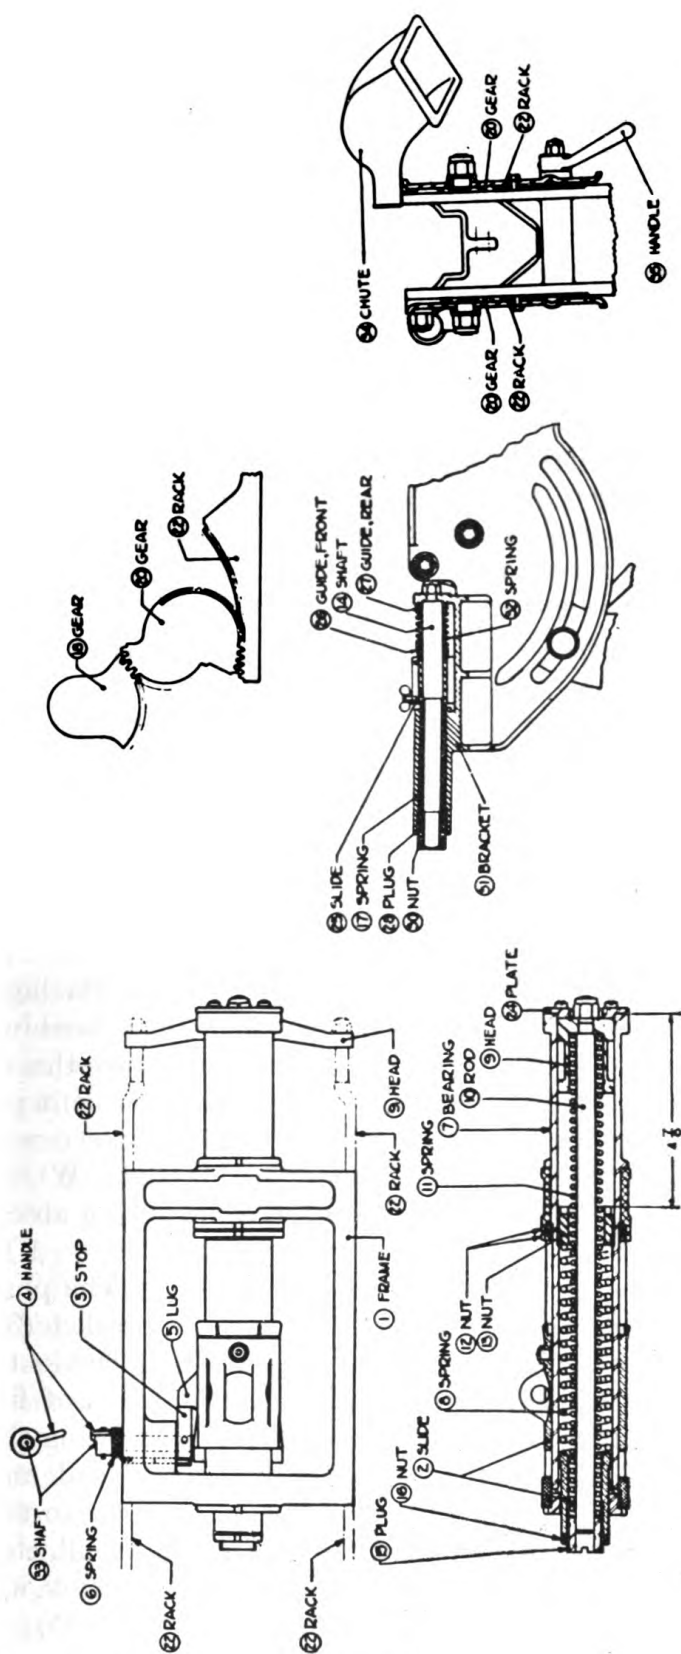

FIGURE 7.—Antiaircraft machine-gun mount, caliber .50, M2, recoil mechanism.
(3) *Recoil mechanism* (fig. 7).—(a) The recoil mechanism is housed in frame (1) which is located between and secured to the cradle side plates. The rear gun joint pin passes through the gun bracket and slide (2) of the mechanism.
(4) *Operation of recoil mechanism* (fig. 7).—As the machine gun recoils, slide (2) moves with the gun to the rear, compressing springs (8), (11), and (32). The built-up spring pressure brings the gun to rest at the end of recoil and returns it to battery during counter-recoil. The counterrecoil of the gun is retarded by the counterrecoil springs (17). The firing mechanism is so arranged that the gun cannot be fired until it reaches a predetermined point in the path of counterrecoil, which is determined by the location of the lug which contacts the side plate trigger. Whether the gun is fired when it reaches this point or later depends on the relation of the moving parts of the gun mechanism, that is, the sear slide must be in position to be disengaged by the side plate trigger. The counterrecoil force of the gun is finally checked by the impulse of this shot. When firing a single shot and on the last shot, the counterrecoil spring absorbs the final energy of counterrecoil.
(5) *Adjustment of recoil mechanism* (fig. 7).—(a) The plug (28) should be $6\frac{1}{8}$ inches from the forward rear face of bracket (31) and lock nut (30) locked against it. Screwing in the plug checks the gun earlier in counterrecoil and will disturb the smoothness of firing if screwed in more than a few turns (clockwise). Unscrewing the plug (counterclockwise) reduces the counterrecoil spring load and aids smoothness of action. However, caution is necessary due to unavoidable variation in energy of cartridge, friction in links, pull, etc. The gun must not be allowed to come in battery, metal to metal with the forward rear face of bracket (31) and the front of slide (25).